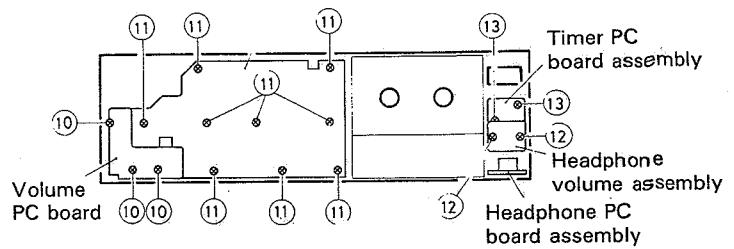

Fig. 2-5
2. Remove the two screws ⑫ retaining the headphone volume PC board (see Figure 2-5).
3. Remove the two screws ⑬ retaining the timer switch PC board (see Figure 2-5).